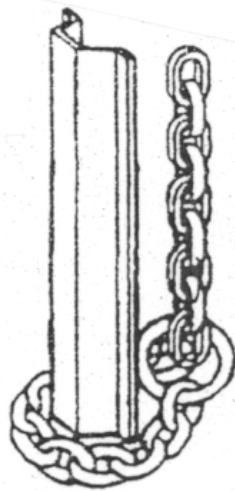

Figure 3-3.
2. Wrap the chain around the post and “thread” the end through the cinch ring of the chain. Bring the chain up through the eye of the BucJac. Pull the chain to remove as much slack as possible. See Figure 3-3. Do NOT use any substitute for the lifting chain provided.